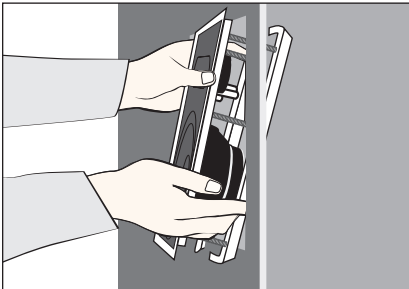

Fig. 5a
- b) Holding the speaker's front lip with your thumbs and index fingers, push the mounting screws toward each other with your other fingers so that the brackets fit through the hole. Release the screws and gently push the speaker to the wall/ceiling. (Fig. 5a)